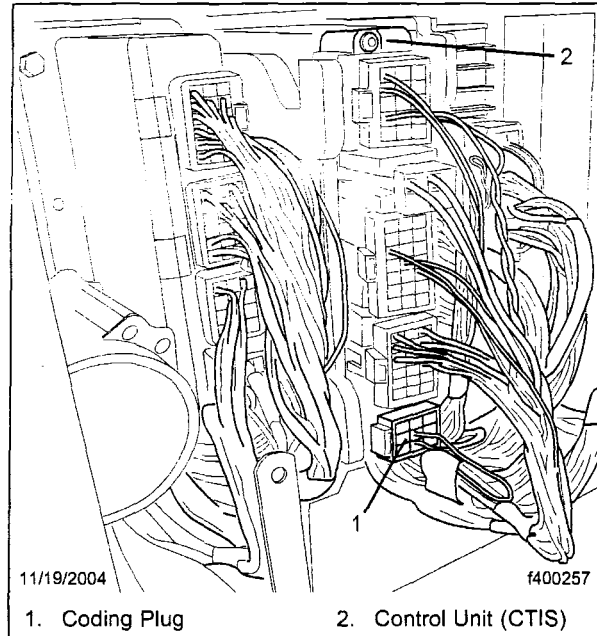

Fig. 13, Electrical Panel
2. Remove the old coding plug from the control unit. See **Fig. 13**.